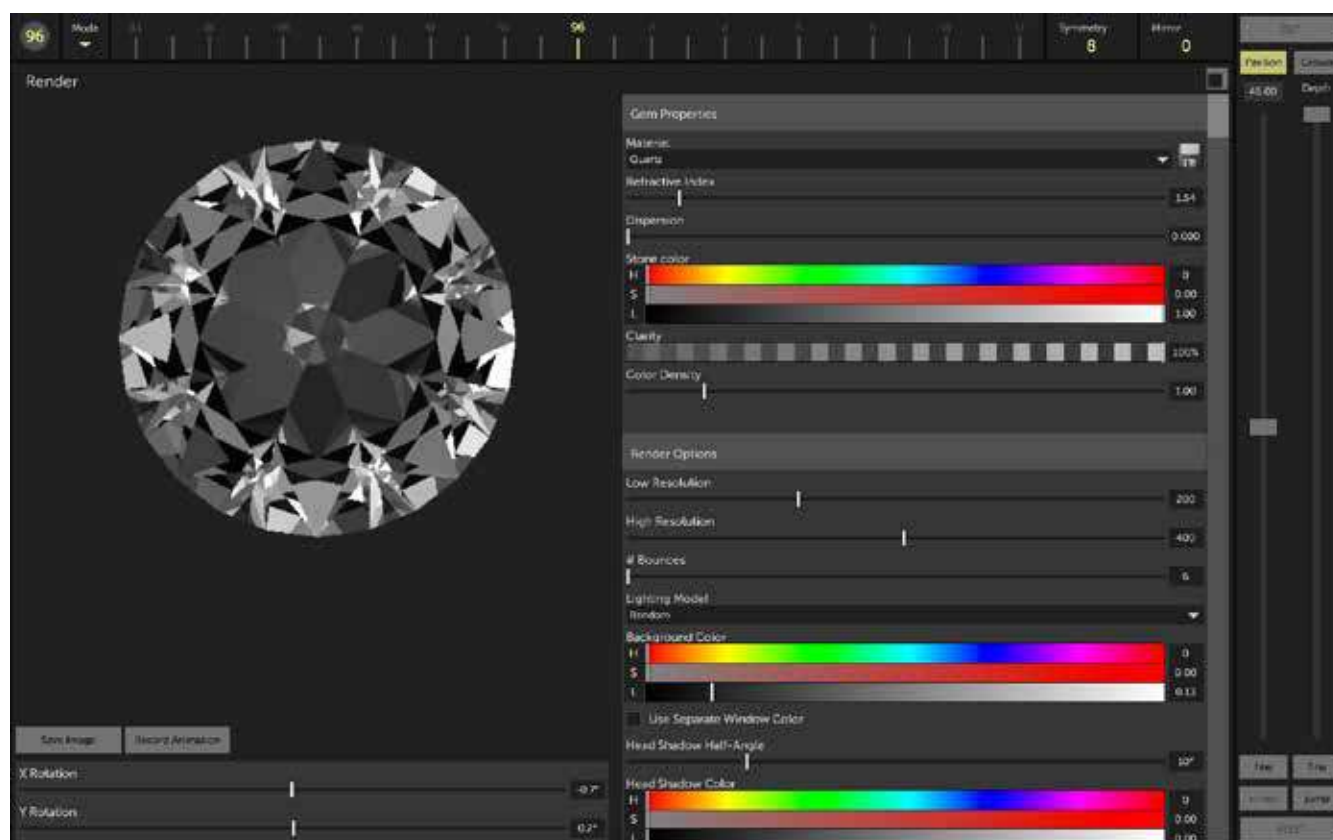

Figure 1. Render view of the round brilliant in Quartz
Let us assume you have a cutting diagram you obtained from FacetingDiagram.org that was designed for quartz with a refractive index (RI) of 1.54, but you want to cut this gem design using Spinel with a RI of 1.712—1.762. You can download the .asc file into GCS. Then view the tutorial on “Adapting a Design to a Different Material” (<https://youtu.be/AhGGRWOMD8Y>). Once you have the cutting diagram file opened, select the **Render** view button, which the square box at the right of the gem view. That opens the Render view (see Figure 1).